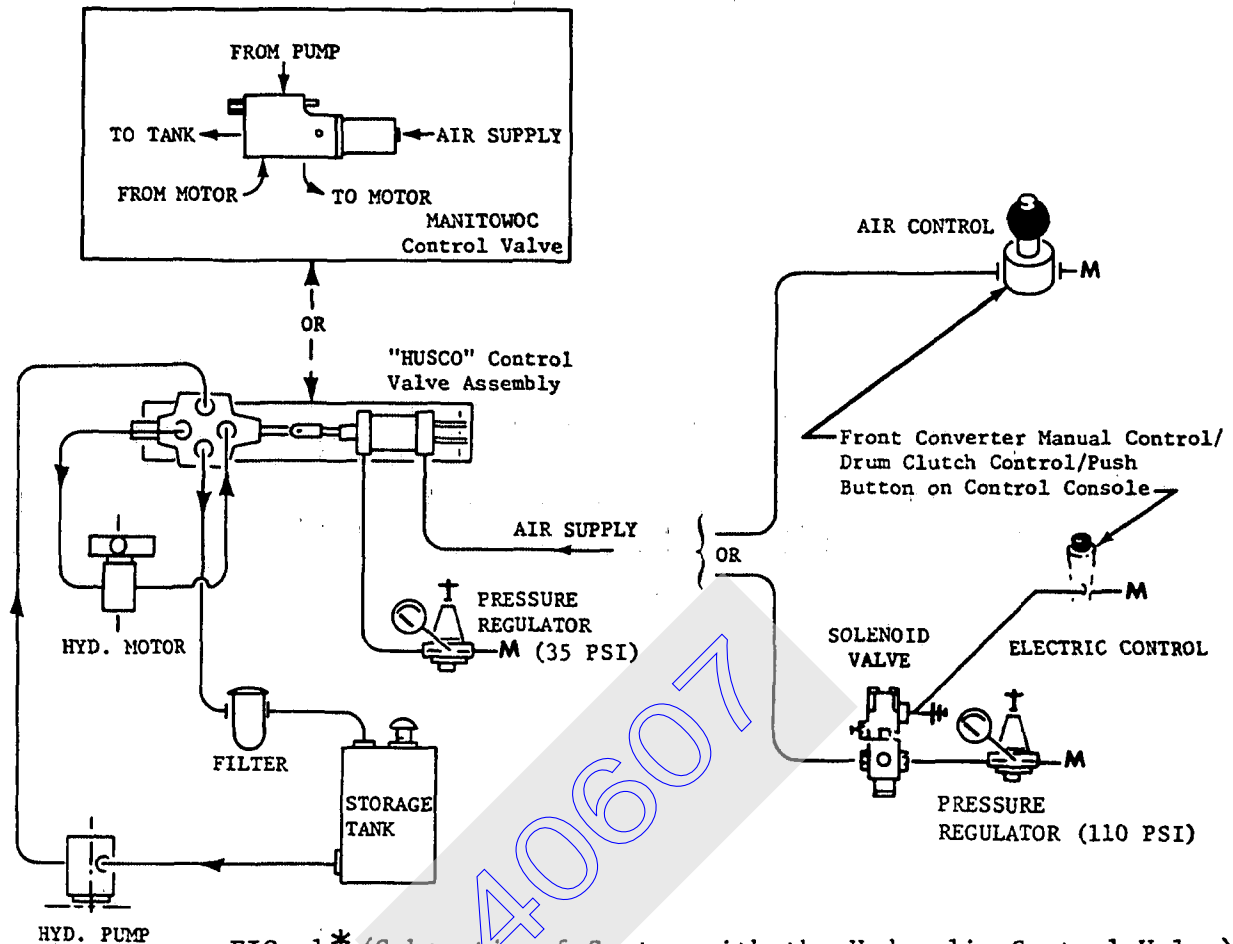

FIG. 1* (Schematic of System with the Hydraulic Control Valve)
Control of the lowering or reversing system is by direct air operation, or electric push button and solenoid valve operation from the operator's station. (SEE FIG. 1)
*Two air regulators pre-set and sealed are in the lowering system (See Fig. 1). One regulator supplies air to the air cylinder assuring that the control valve returns to its neutral position after